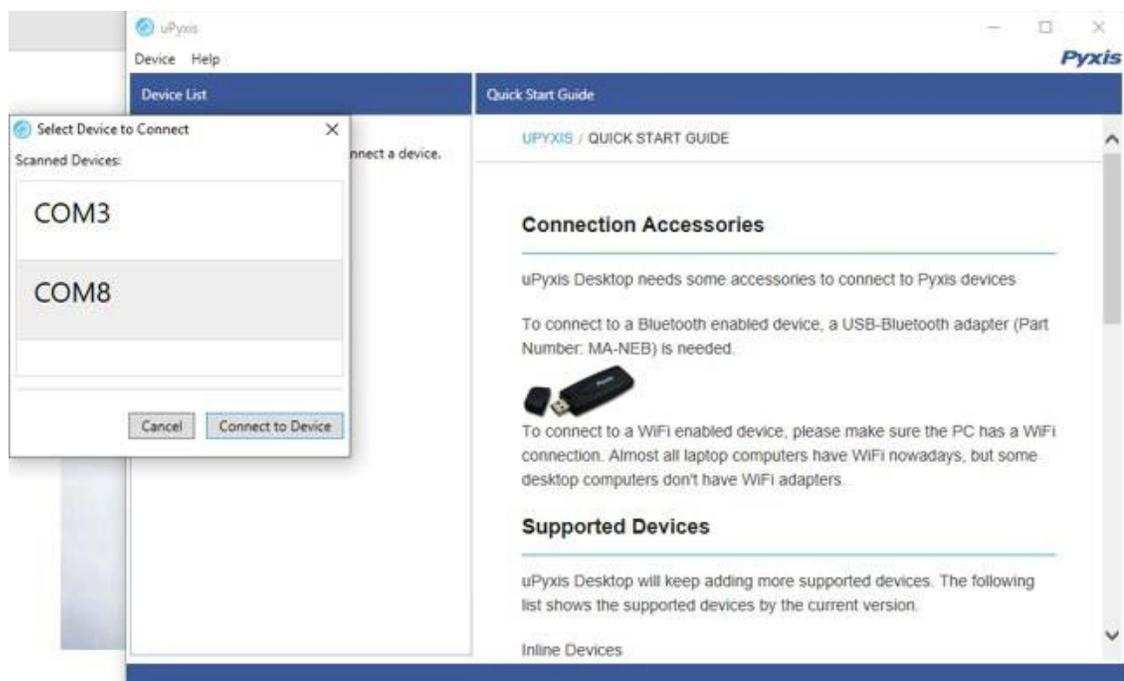

Figure 12. Select a Comm port
7. Select the Comm Port to make a connection. Normally only one Comm port is identified by uPyxis (Figure 12). If more than one Comm port listed in the selection dropdown, you may try to select each one to see if a connection can be made. Alternatively, you may use the Windows Device Manager to identify the Comm Port that the Pyxis USB adapter is using.